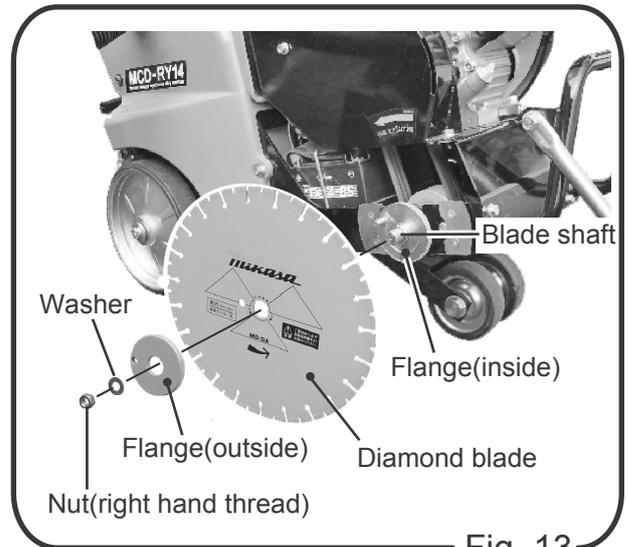

Fig. 13
- B. On the blade shaft, install the flange (inside), diamond blade, and flange (outside) in this order. Set a washer and tighten well with a nut (right hand thread). (Fig. 13)